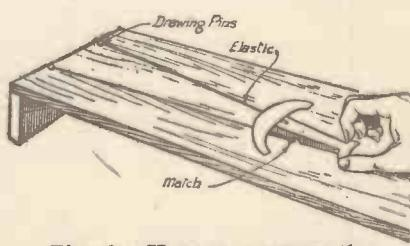

Fig. 6.—How to arrange the Catapult.
**A Miniature Catapult Glider.**—The only materials you require for the miniature indoor catapult glider shown by Figs. 5 and 6 are a piece of thin cardboard, a length of elastic, and any suitably arranged platform, such as a drawing-board. Fig. 6 shows that the catapult is fixed down to the platform by means of drawing pins, and the looped end is placed into sloping slots in the side of the fuselage. When you pull the glider back and release it, it will be shot into the air at a high speed, and will glide for a considerable distance. Many little experiments can be carried out with it. You will be able to study the effect of varying the angles of the wing tips and tail, and it will thus help you to understand the principles of the aeroplane.